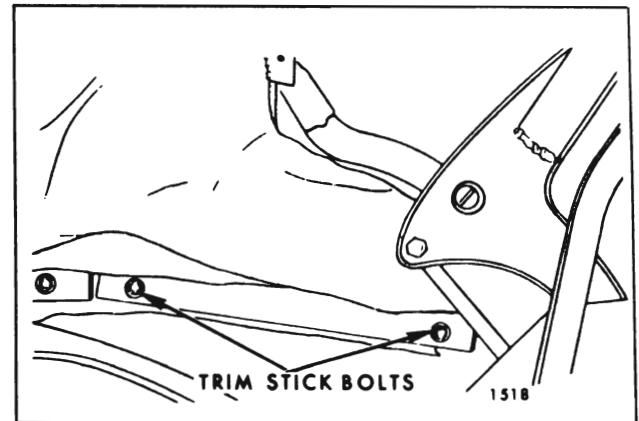

Fig. 13-6 — Rear Quarter Trim Stick
18. At each rear quarter area remove attaching bolts securing rear quarter trim stick assembly to rear quarter inner panel (Fig. 13-6).